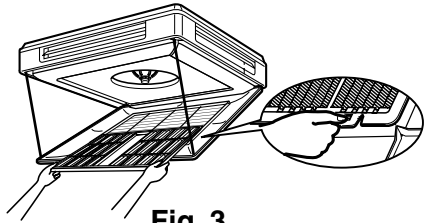

Fig. 3
- 2 Lock the air filter in place by pushing down on the knobs. **(Refer to Fig. 3)**